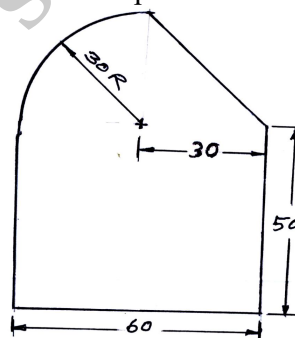

Fig.Q7(a)
- 7 a. Prepare a manual part program to machine the component shown in Fig.Q7(a) below, using an end mill of 20mm diameter and “without using cutter compensation codes”. Show the tool path and write comments for each block. The program should be complete in all respects. Assume suitable speed feed and depths.